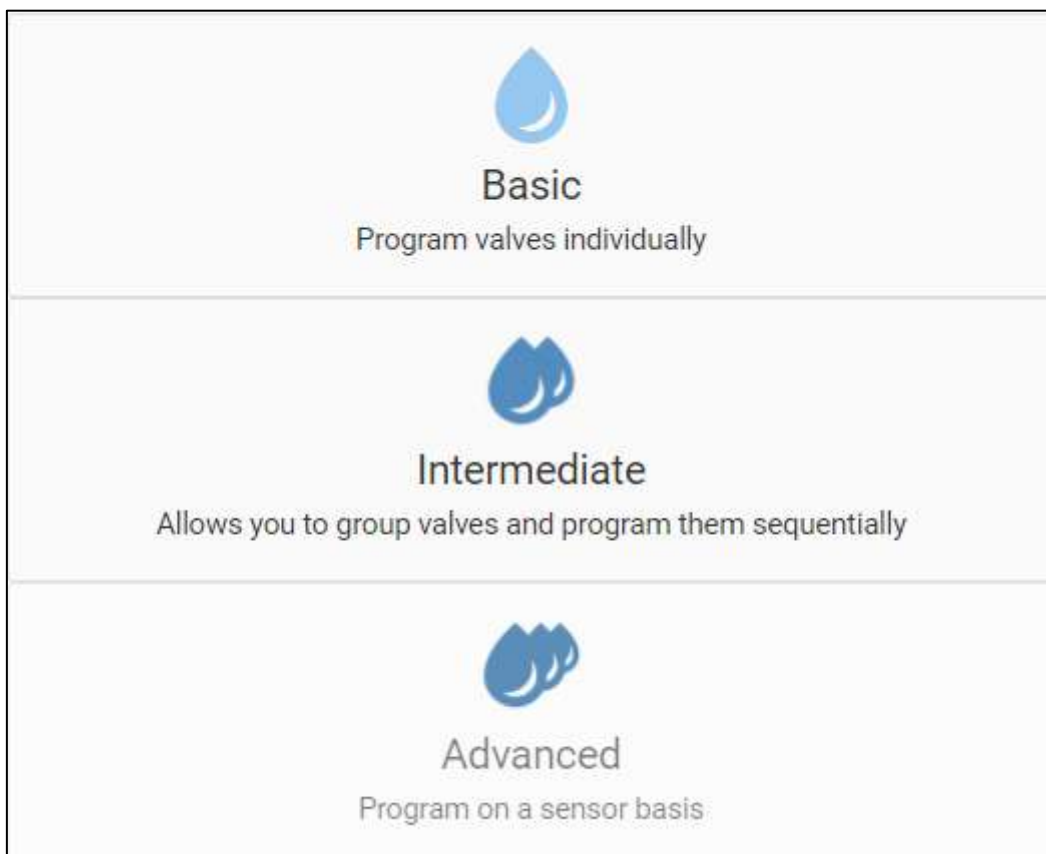

Figure 21 Types of schedule
- Select the type of schedule, see Figure 21. (For more information about schedule functionalities, see types of schedule).